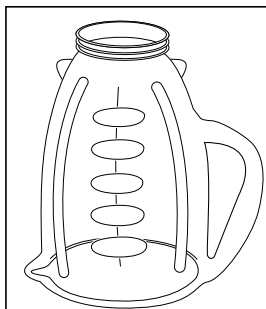

FIGURE 1
1. Turn jar upside down so the small opening is at the top. (Figure 1)